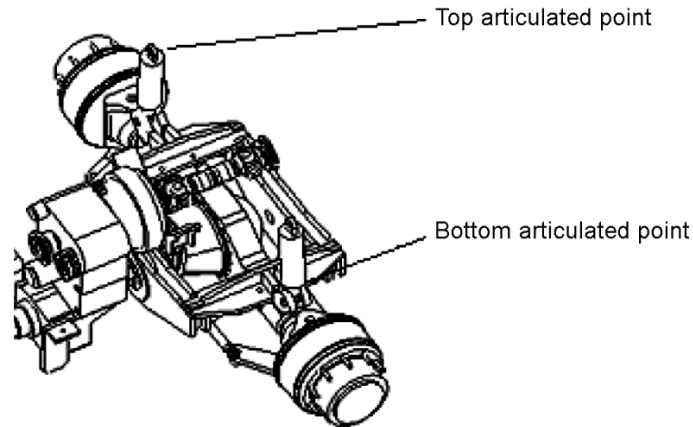

Figure 1-13 Rear Suspension Points
- (7) Lubricate the rear suspension. Refer to Figure 1-13.